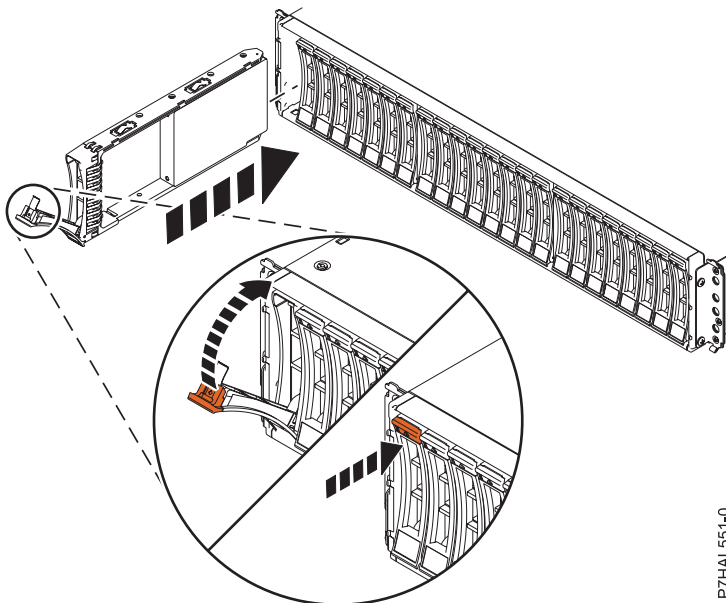

Figure 14. Installing the disk drive in the 5887 disk drive enclosure
1. With the handle in the unlocked position, see Figure 14, support the bottom of the drive as you align it with the guide rails in the expansion unit.